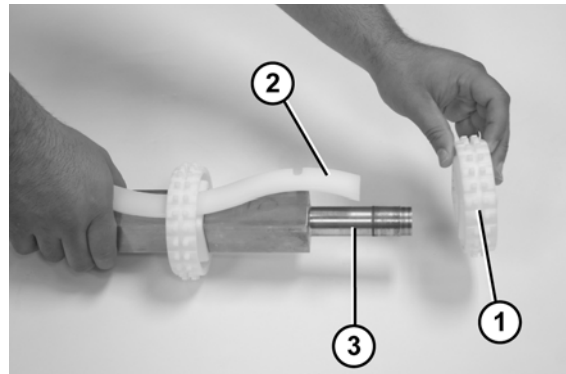

Figure 68
10. Slide the sprockets (**Figure 68, item 1**) and the sprocket alignment bar (**Figure 68, item 2**) off the drive spindle (**Figure 68, item 3**).